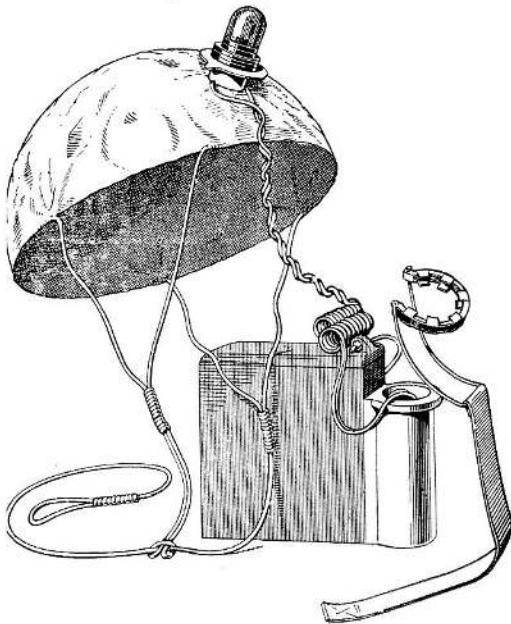

Fig. 8. Lamp and skull cap
22. The life-jacket lamp (*fig. 8*) consists of a battery, a skull cap on which the bulb is mounted, and a cable, all stowed inside a watertight plastic case. The battery consists of plates of silver chloride and magnesium which operate when in contact with fresh or salt water.